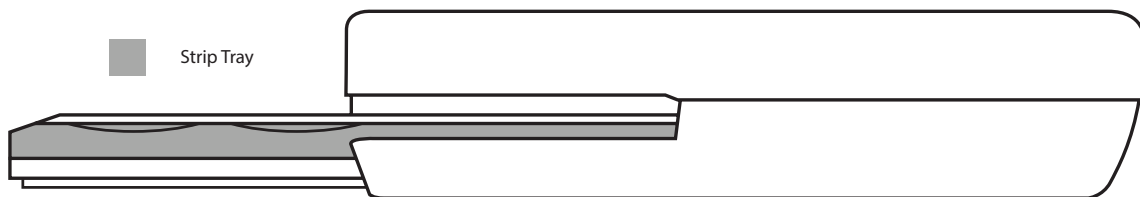

Fig. 16 The Strip Tray sits atop the Tray Carriage. The Tray Carriage should not be removed during cleaning of the Tray
1. It is important to clean the Strip Tray after each use to prevent cross-contamination of strips by residue from previous urine samples. The Strip Tray sits on top of the Tray Carriage, which should not be pulled out of the analyzer. (Fig. 16)